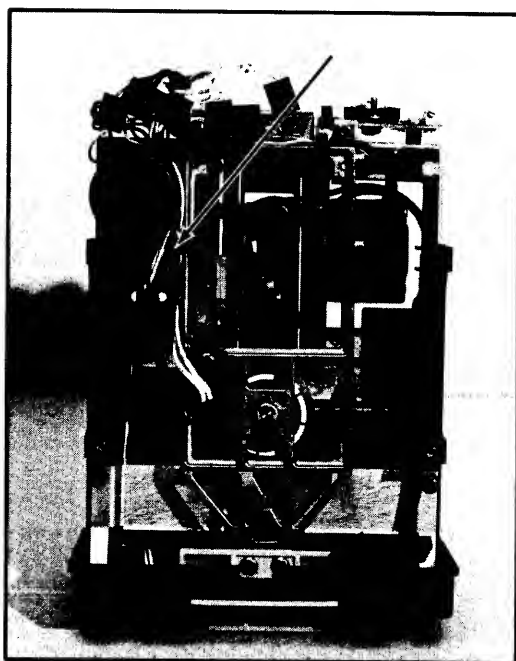

Figure 5-6. Track 0 Retaining Screw
- i. Slightly loosen the track 0 switch retaining screw shown in figure 5-6.